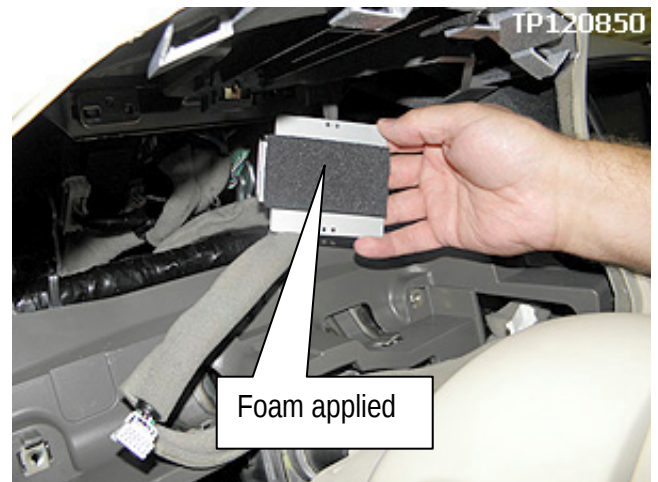

Figure 16
Foam will be applied to the side of both antennas shown in figure 16.
- Figure 16 shows antenna with foam applied.